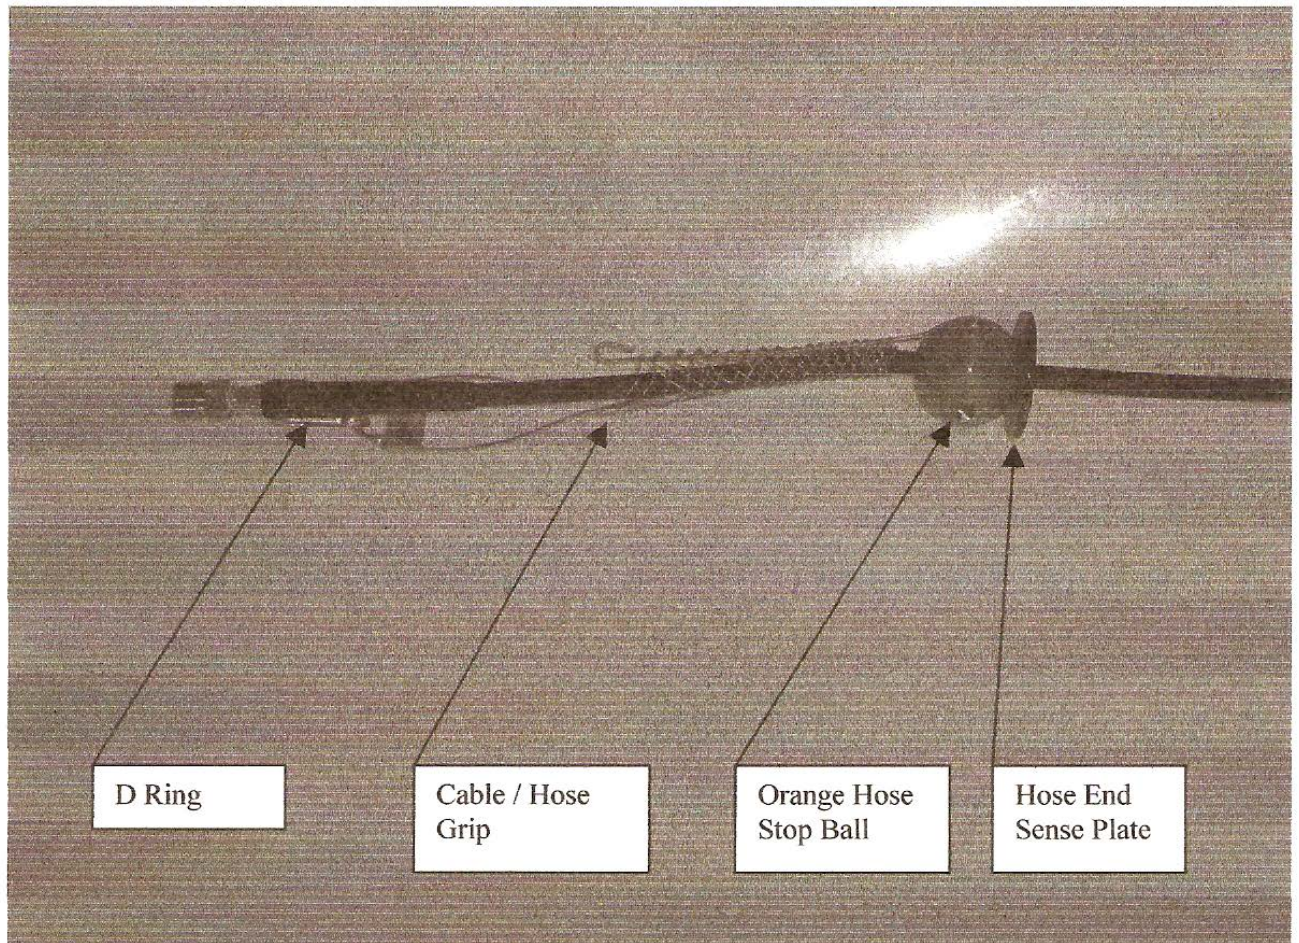

Figure 1.4 End of hose attachments
- 1.9 Slide the orange hose ball with end sensor plate (see Figure 1.4) along the hose to the stop point.
- 1.12 Slide the Hose/Cable grip (see Figure 1.4) along the hose to the anchoring point.
- 1.13 Using the D- Ring attached to the Hose/ Cable Grip attach the hose to the anchoring point. (see Figure 1.4)